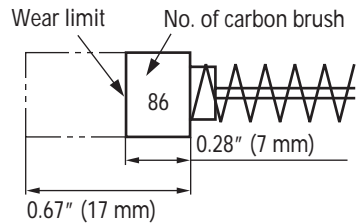

Fig. 9
4. Inspecting the carbon brushes (Fig. 9)
The Motor employs carbon brushes which are consumable parts. When they become worn to or near the "wear limit", it results in motor trouble. When an auto-stop carbon brush is equipped, the motor will stop automatically. At that time, replace both carbon brushes with new ones which have the same carbon brush Numbers shown in the figure 9. In addition, always keep carbon brushes clean and ensure that they slide freely within the brush holders.
Use metabo HPT carbon brush No. 86 indicated in Fig. 9.